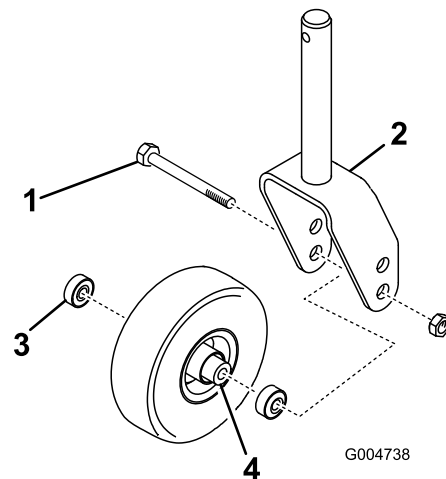
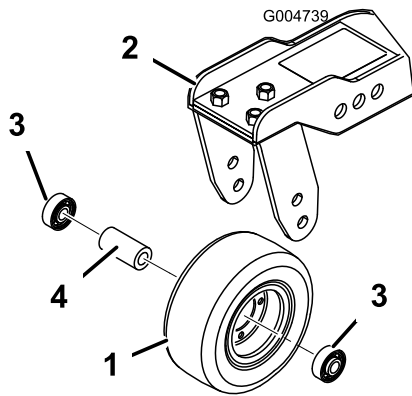

Figure 80
Figure 81
1. Remove the locknut from the bolt holding the caster-wheel assembly between the caster fork (Figure 80) or the caster-pivot arm (Figure 81).
- Remove the bearing from the wheel hub and allow the bearing spacer to fall out (Figure 80 and Figure 81).